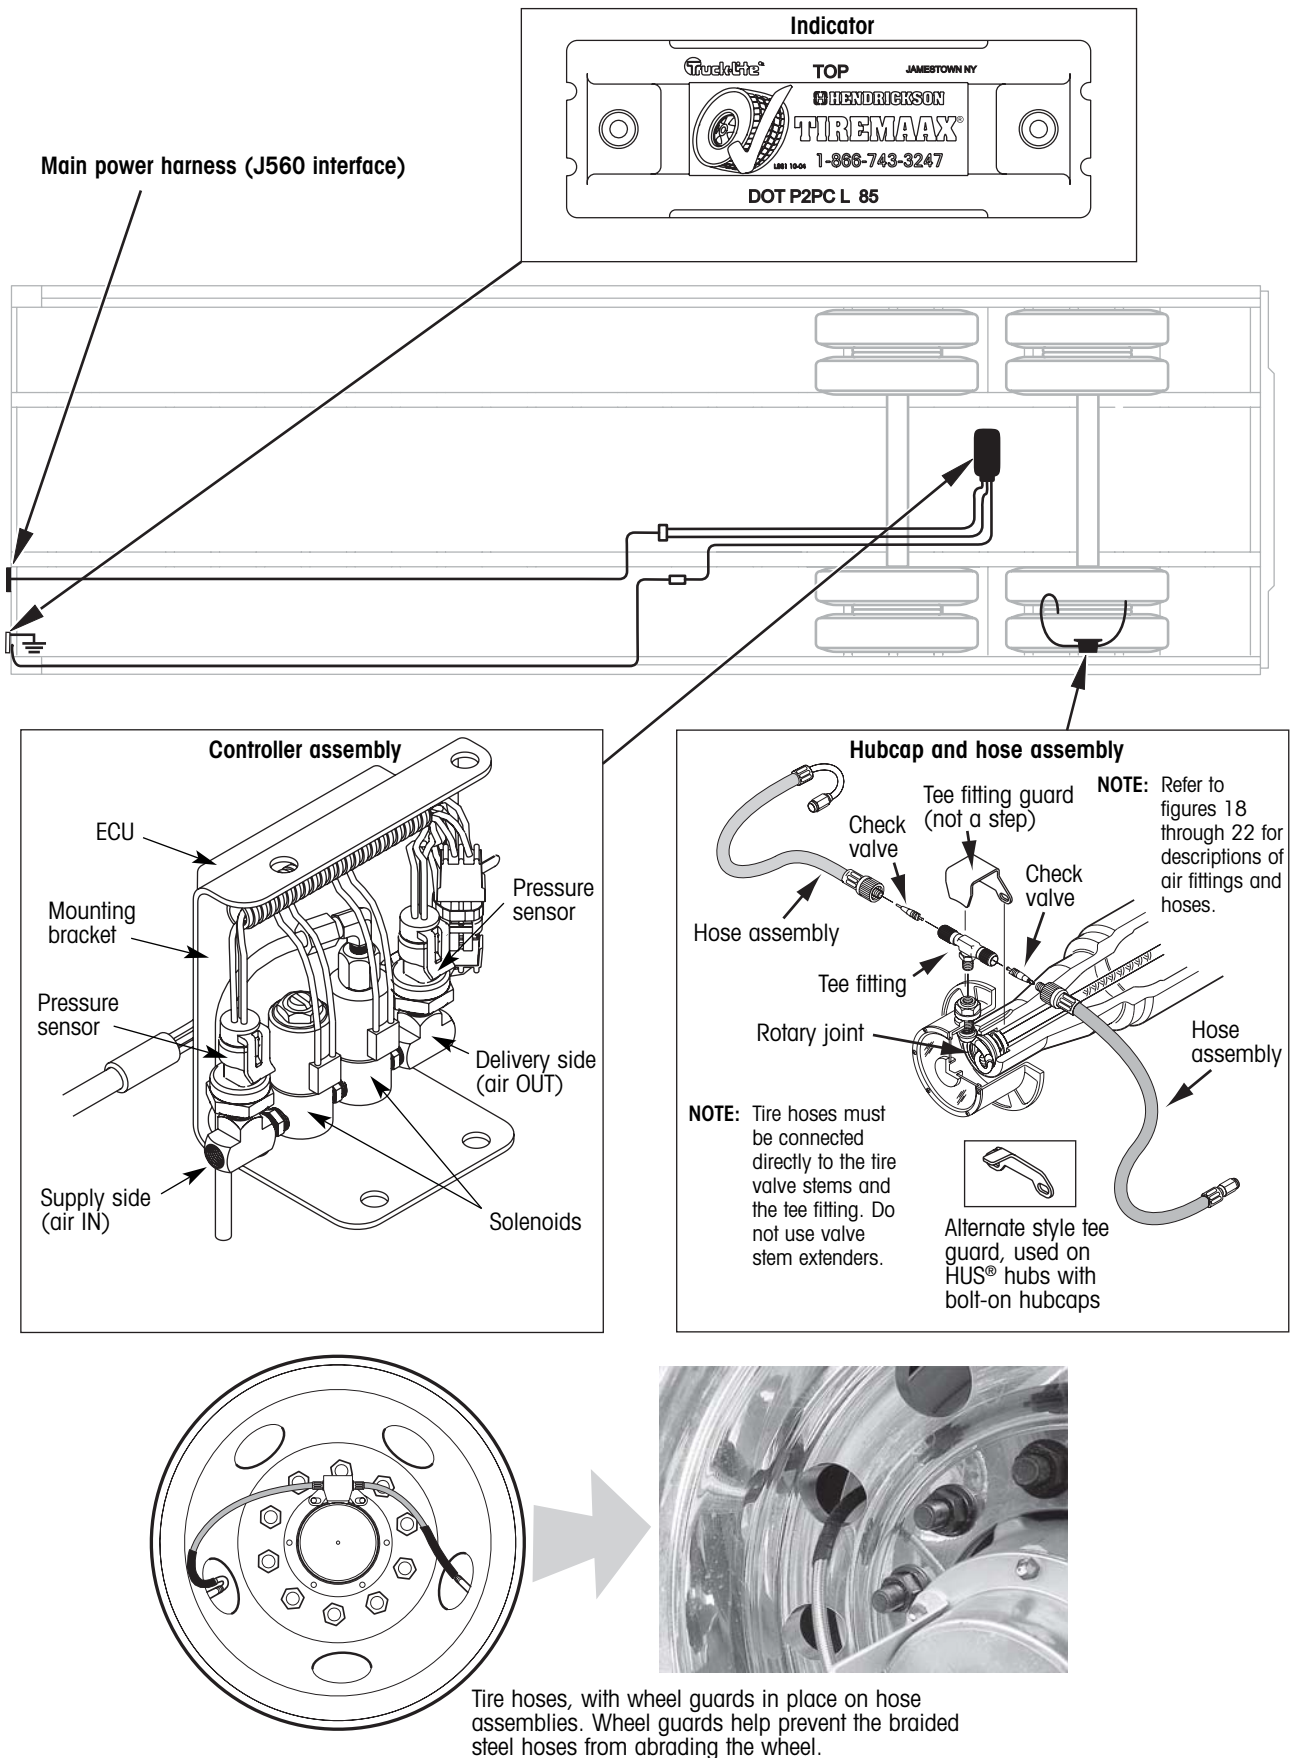

Figure 3. TIREMAX® EC components
Refer to figure 3 for major TIREMAAX® EC component illustrations. Refer to figures 18 through 22 for a complete description of air fittings and hoses.
- separate supply side (air IN) and delivery side (air OUT) ports, see figure 3